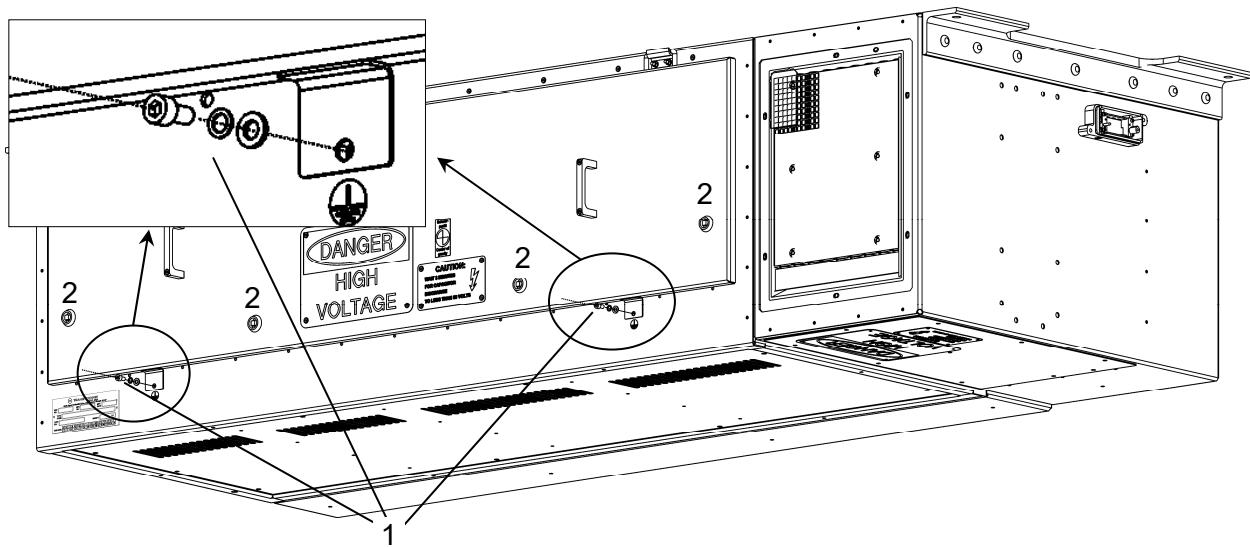

Figure 3-1: Remove Dry Section Cover (1)
1. Unscrew 2 x hex socket screws M6 x 15 mm (1). See Figure 3-1.
3. Open all four compression latches (2) using an 8-mm hexagon key.